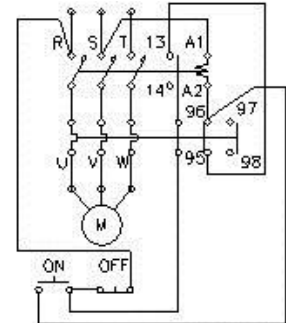

Fig.6 Protection circuit
- 1) Wire the trip contacts to the appropriate circuit protection device.(See Fig.6)